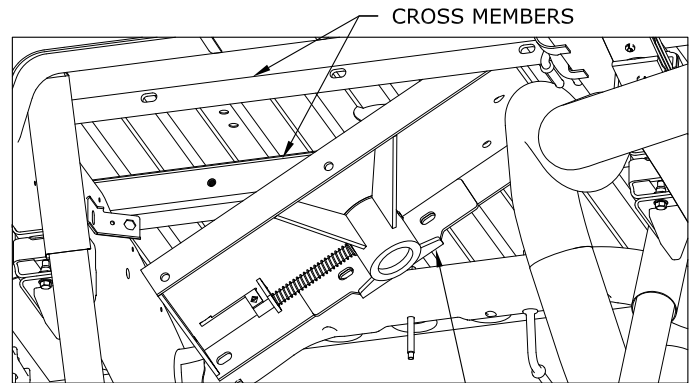
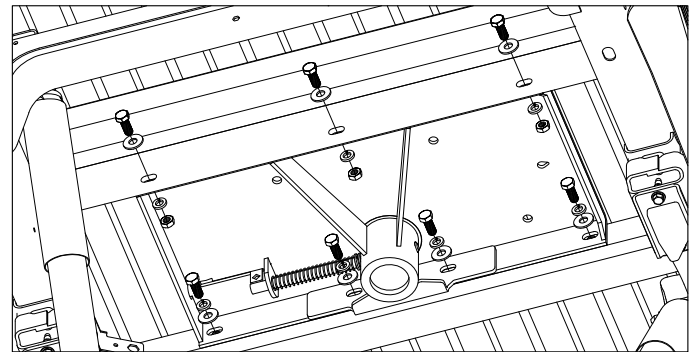

FIGURE B5: View under bed looking at area above axle.
FIGURE B6: View under bed of hardware assembly.
2. Install Center Section. Install the center section with the latch pin on the driver's side. Raise the center section over the differential while sliding the center section over the exhaust and guiding the raised 4" circle on top of the center into the 4" hole in the truck bed floor, See figure B5. Move rear cross member forward against the center section. Place a 1/2" flat washer on a 1/2" X 1 1/2" hex cap screw. Insert the cap screw through the rear cross member and center section, securing it with a 1/2" lock washer, and a 1/2" finish nut. Thread a 1/2" X 1 1/2" hex cap screw with a 1/2" lock washer and a 1/2" flat washer into the front cross member from the inside of the center section, See figure B6 (Do not tighten hardware at this time.)